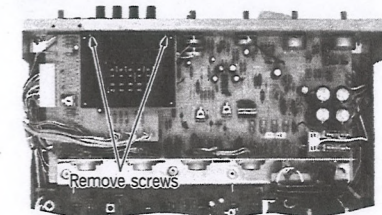

Fig. 11
2. Remove screws shown in Fig. 11.